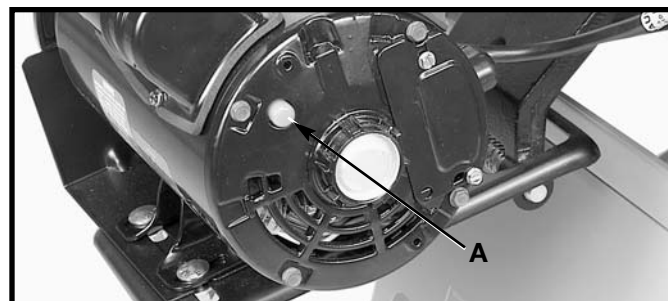

Fig. 45
Some saws are equipped with motors that do not have a resettable overload. However, if your motor is equipped with a resettable overload and the motor shuts off or fails to start due to overloading, move the switch to the "OFF" position and let the motor cool three to five minutes. After cooling for three to five minutes, push the reset button (A), Fig. 45. The saw can then be turned on again in the usual manner. Note: Overloading occurs due to cutting stock too fast, using a dull blade, using the saw beyond its capacity, low voltage, and etc.